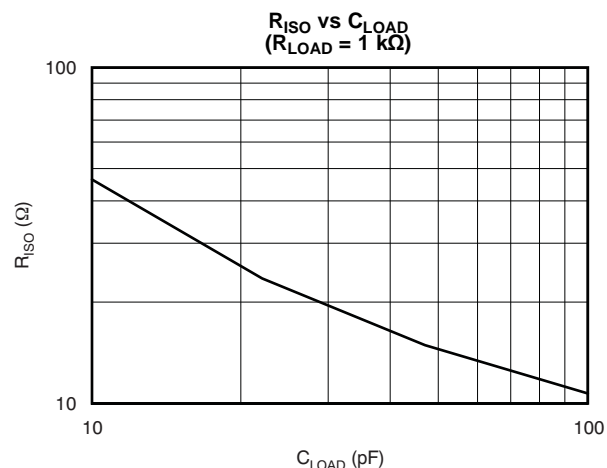

Figure 17.
The Typical Characteristics show the recommended R_{ISO} versus Capacitive Load performance (see Figure 17) and the resulting frequency response with a 1-k Ω load. Note that larger R_{ISO} values are required for lower capacitive loading. In this case, a design target of a maximally-flat frequency response was used. Lower values of R_{ISO} may be used if some peaking can be tolerated. Long PCB traces, unmatched cables, and connections to multiple devices can easily degrade the performance of the OPA653. Always consider this effect carefully, and add the recommended series resistor as close as possible to the OPA653 output pin (see the Board Layout section). With heavier loads (for example, the 100- Ω load presented in the test circuits used for testing the Typical Characteristics), the OPA653 is very robust; R_{ISO} can be as low as 10 Ω with capacitive loads less than 5 pF and continue to show a flat frequency response.
d) Connections to other wideband devices on the board may be made with short direct traces or through onboard transmission lines. For short connections, consider the trace and the input to the next device as a lumped capacitive load. Relatively wide traces (50 mils to 100 mils, or 1.27 cm to 2.54 cm) should be used. Estimate the total capacitive load and set R_{ISO} from the plot of *Recommended R_{ISO} vs Capacitive Load* (Figure 17). Low parasitic capacitive loads (less than 5 pF) may not need an R_{ISO} because the OPA653 is nominally compensated to operate with a 2-pF parasitic load.
case, and set the series resistor value as shown in the plot of R_{ISO} vs *Capacitive Load* (Figure 17). This configuration does not preserve signal integrity as well as a doubly-terminated line. If the input impedance of the destination device is low, there will be some signal attenuation as a result of the voltage divider formed by the series output into the terminating impedance.